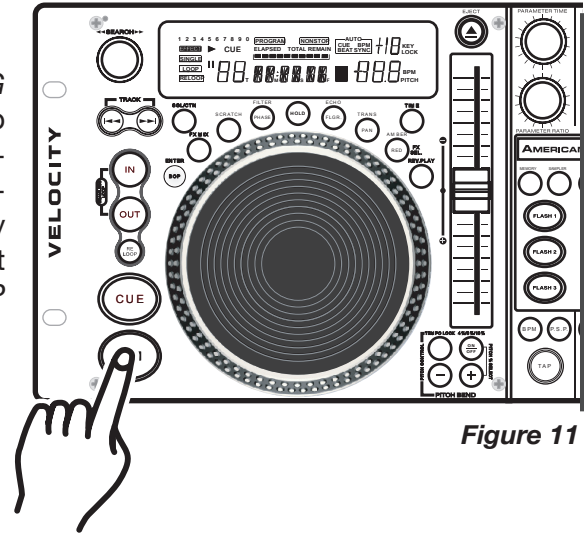
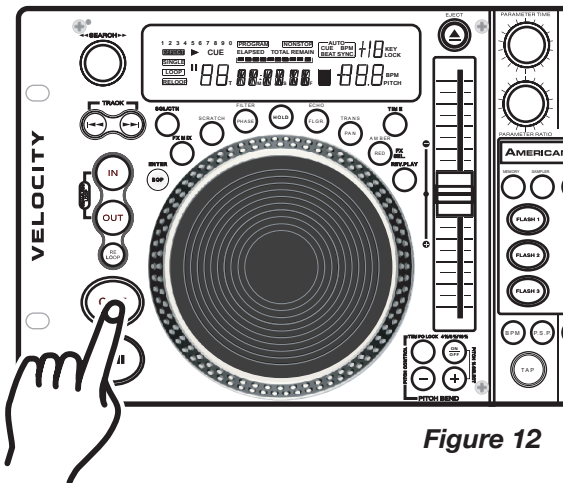
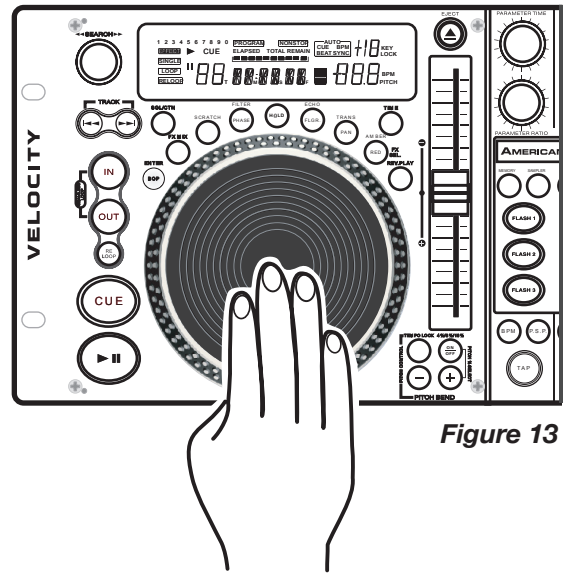

Figure 11
Figure 12
Figure 13
3. STARTING PLAYBACK - Figure 11
5. STOPPING PLAYBACK - Figures 11 & 12
- 1) Press the *PLAY/PAUSE BUTTON (22)* during playback. This will pause playback at the exact same point the *PLAY/PAUSE BUTTON (22)* was pressed.
- 2) Press the *CUE BUTTON (21)* during playback. This will pause playback and return the track to the last set cue point.
6. PAUSING - Figure 11
This feature allows you to scroll through a track frame by frame, allowing you to find and set a starting cue, sample, or loop point. To use the scroll function you must first be in Pause Mode (see section 5) or Cue Mode (see section 7). Once you are in Pause or Cue mode, turn the *JOG WHEEL* (23) to scroll through the track (Figure 13). Turning the wheel in a clockwise direction will advance the frame search and turning the wheel in a counter-clockwise direction rewinds the frame search. When you use the *JOG WHEEL* (23) the monitor (headphone level) function allows you to hear what you are scrolling through. Once you reach your desired starting point you can set a cue (starting) point by pressing the *PLAY/PAUSE BUTTON* (22) as in Figure 11. Pressing the *CUE BUTTON* (21) as in Figure 12 will now return you to the point you just set.
- 3) Press the *OUT BUTTON (2)* to set the ending point for your SEAMLESS LOOP (Figure 13). The *IN BUTTON (32)* and *OUT BUTTON (2)* LEDs will immediately begin to flash rapidly, indicating the SEAMLESS LOOP mode has been activated.